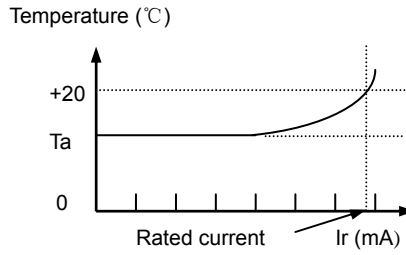

Fig. 5.3.3-2
- e. When operating temperatures exceeding $+85^{\circ}\text{C}$, derating of current is necessary for chip ferrite beads for which rated current is 1000mA and over. Please apply the derating curve shown in chart Fig. 5.3.3-3 according to the operating temperature.